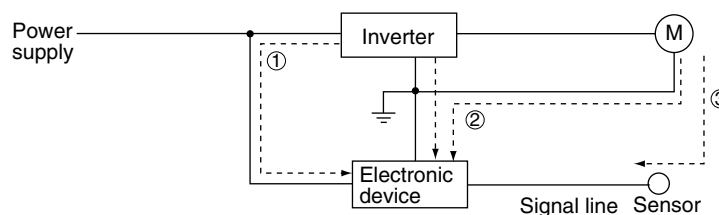

Fig. 3 Conduction noise
(1) Conduction noise
Conduction noise is generated in the inverter, propagates through the conductor and power supply, and effects peripheral devices of the inverter (Fig. 3) Some conduction noise ① propagates through the main circuit. If the ground lines are connected with a common connection, there is conduction through route ②. There is also noise ③ through the signal line and shielded wire.